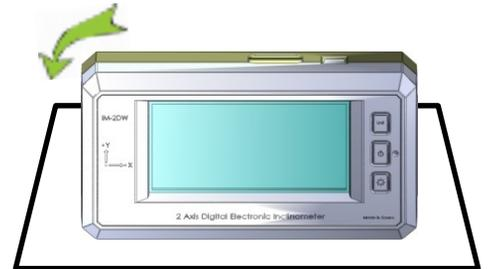

Fig.3
3. Put the inclinometer on the surface as like Fig.3 and wait until the values are settled.